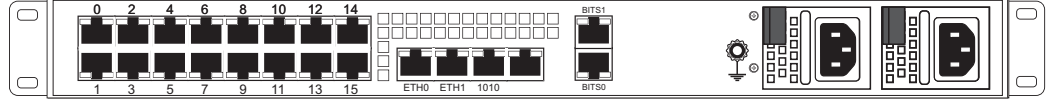

Figure 1.3
- Based upon the configuration of your 7800 series gateway, the number of 7800-TMS media switche(s) may range from zero to two. See figure 1.3 on page 3.